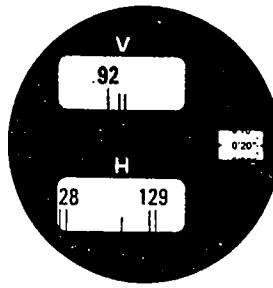
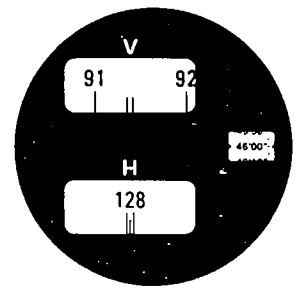
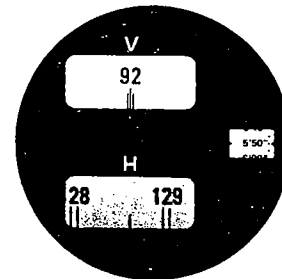

Fig. 13
Fig. 14
Fig. 15
Fig. 13 shows the appearance of the windows after the sighting. H and MS windows are used. In the H window, 128° and 129° graduations are seen on the both sides of the index line. Turn the micrometer knob ⑧ until the index line bisects the double line of either 128° or 129° graduation as in Fig. 14. The MS window shows $46'00''$. The horizontal reading is then $128^\circ 46'00''$.
After the target is sighted, look at the V and MS windows. Two graduations are seen on the both sides of the double index line (Fig. 14). Turn the micrometer knob until either degree is centered in the double line as in Fig. 15. The zenith angle reading is then $92^{\circ}5'50''$.